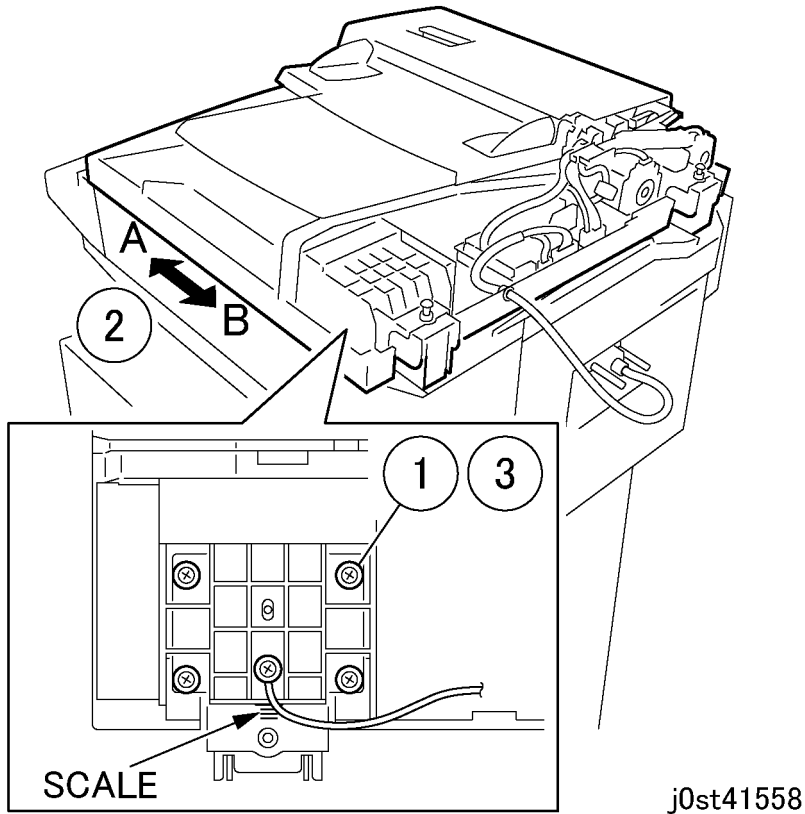

Figure 2 Adjusting the DADF Position
2. Adjust the position of the DADF by moving the DADF in direction A or B. (Figure 2)